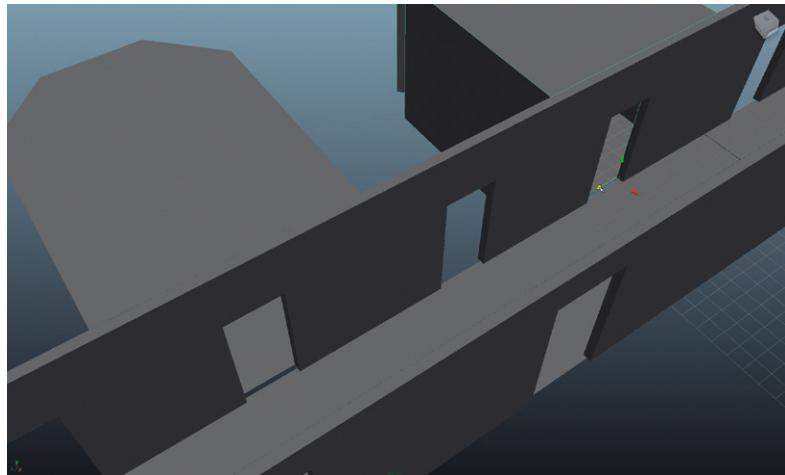

FIG 3.33 Duplicating the old room to create a new room with smart snapping.
Step 48: Duplicate and place the new room two doors down. To do this, swap to Object Mode and move the room's manipulator handle to the bottom corner of the door. Use Edit > Duplicate and then use Snap to Vertex and move the new room down two doors, snapping to the corner of the doorway (Fig. 3.33).